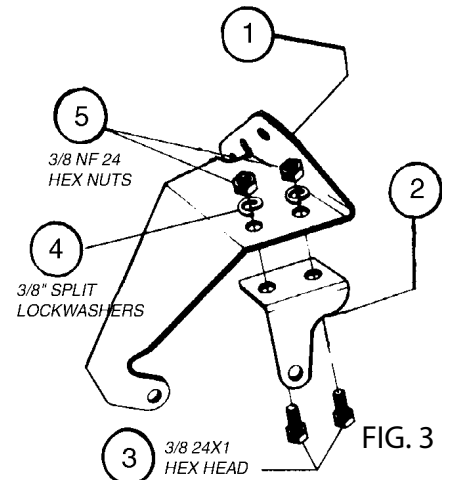

FIG. 3
3. Assemble the mounting bracket (1) with the bracket leg (2) using 3/8 bolts, split lockwashers and hex nuts. See Fig. 3. **DO NOT TIGHTEN BOLTS.**